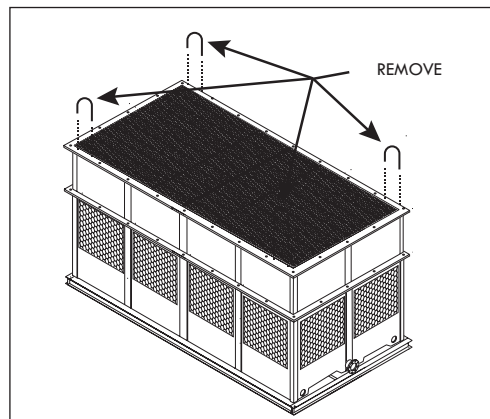

Figure A-19: Removing U-bolts from Lower Body section for a Double Fan Tower (RT-D)
- I.** After the Lower Body section has been set in place, remove the U-bolts located on the flange before installing the Upper Body section (see Figure A-19).